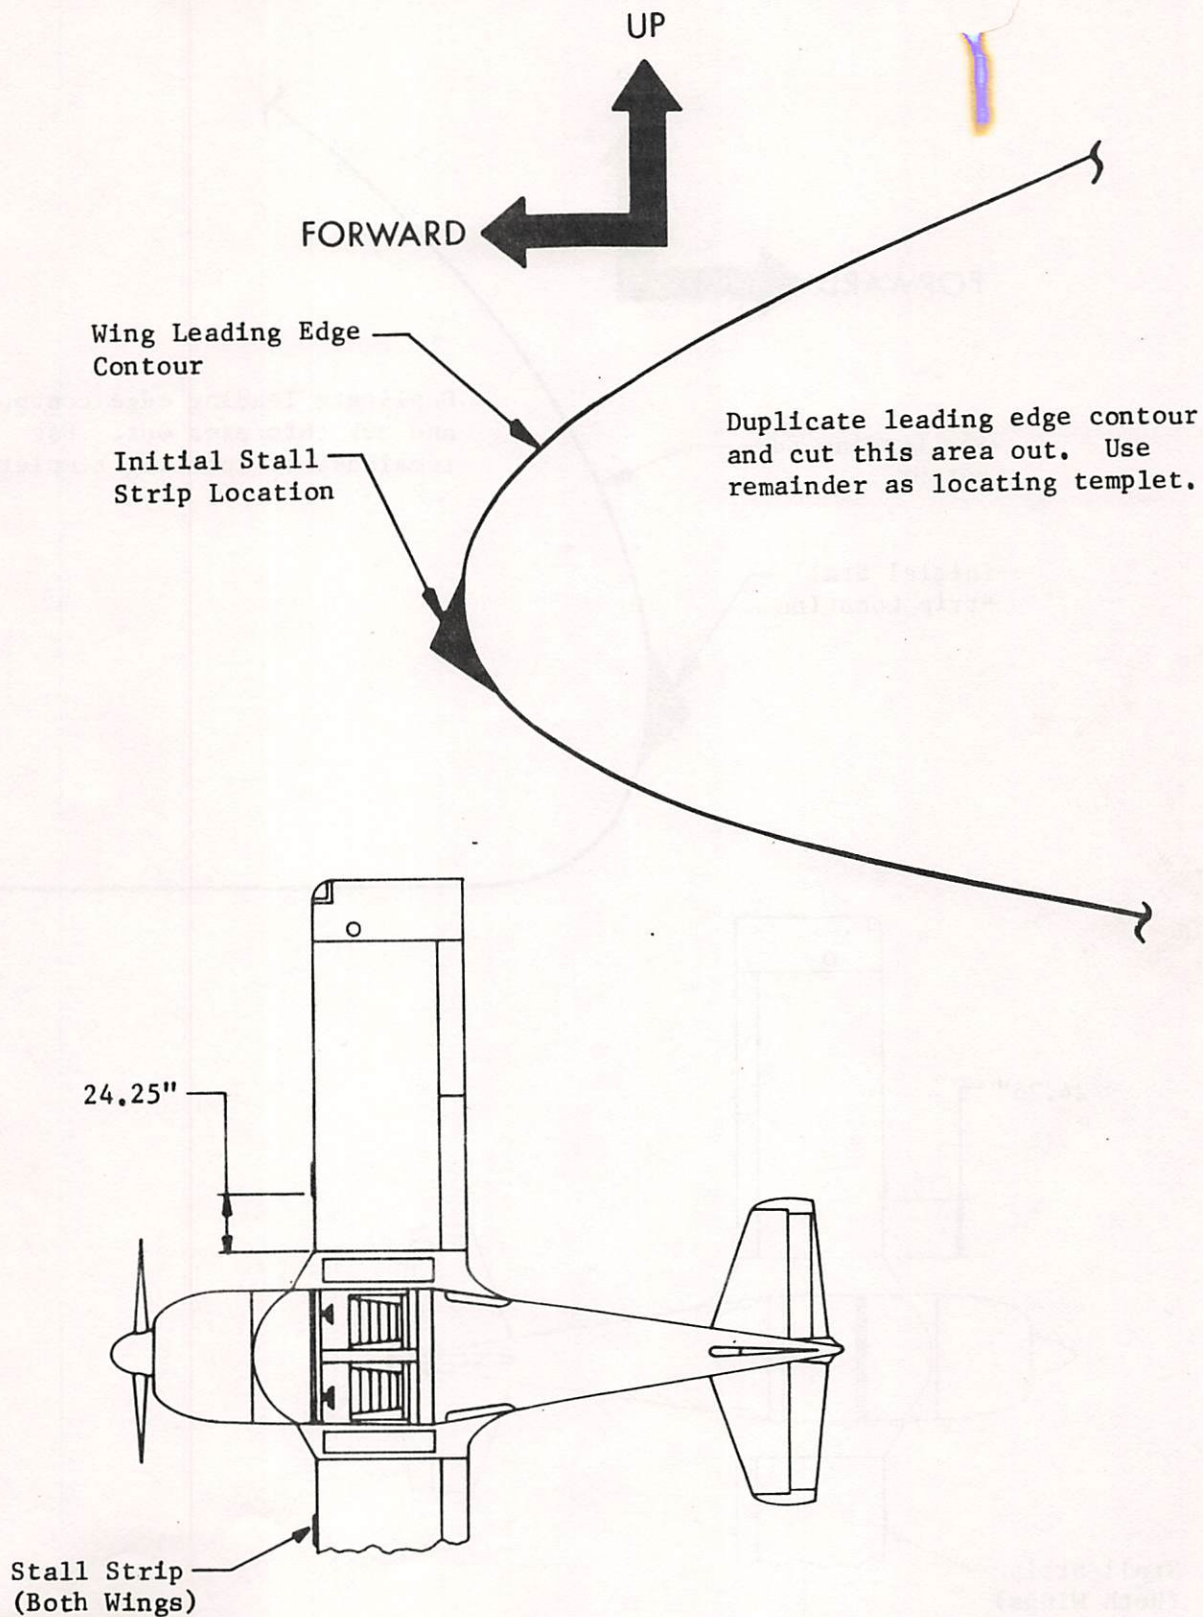

Figure 3-1. Model AA-1 Initial Stall Strip Location
*If the original wing is replaced by a new or remanufactured wing, the stall strip should be taped in place (see Figures 3-1 and 3-2 for locations) and the aircraft test flown to "fine tune" the wing. Perform a series of stalls at half throttle and move the stall strip slightly up or down (max. 1/8"), as required, to obtain a straight ahead stall and rivet in place.*